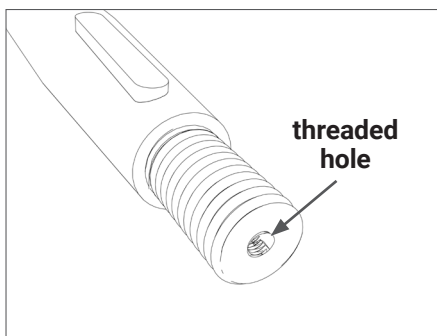
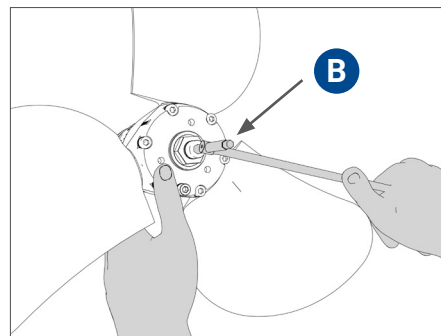

FIG. 16 Drill the threaded hole on the shaft; it should be perfectly centred and aligned
FIG. 17 Safety bolt tightening
- If you choose this solution for greater safety, you will have to drill a threaded hole in the propeller shaft with a thread size suitable for the bolt, making sure that it is centred and perfectly aligned (**Fig. 16**), to be able to insert the safety bolt **B** (**Fig. 17**).